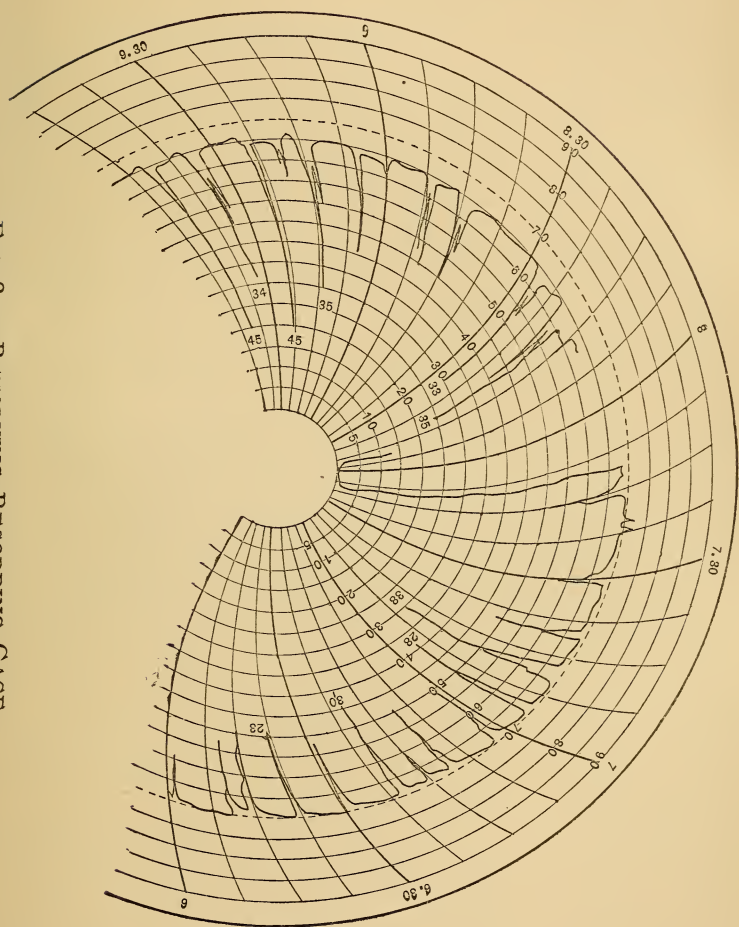
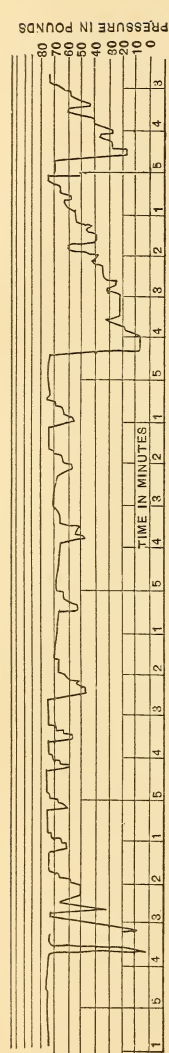

FIG. 82.—REVOUYING RECORDING GAGE.
FIG. 83.—HORIZONTAL RECORDING GAGE.
A. Two; a revolving gage, the chart of which is shown in Fig. 82, and a horizontal gage, a chart from which is shown in Fig. 83.
In Fig. 82, the broken line shows the path the pen would trace if there was a constant pressure of 70 pounds. No pressure is represented by the circumference of the small circle.
The distance between the lines running up and down represent the distance traveled by the train. The chart (Fig. 82) shows two records on the same run made by two different men. A study of the two shows several points of interest.
Fig. 83 shows a record taken from a horizontal recording gage.